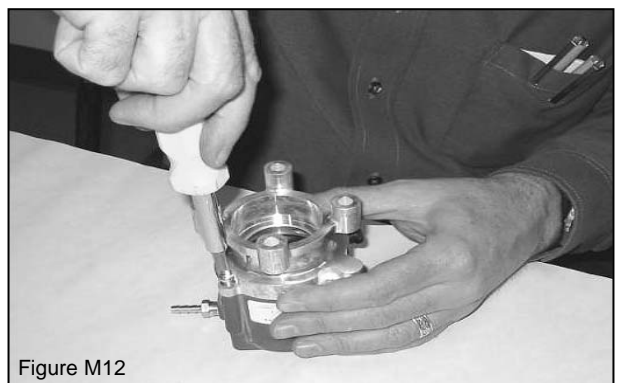

Figure M12
9. Align the check valve notch in the throttle adapter with the mixer check valve and the adapter idle port with the mixer idle port. Install the throttle adapter tamper-resistant screws to the mixer (Figure M12).